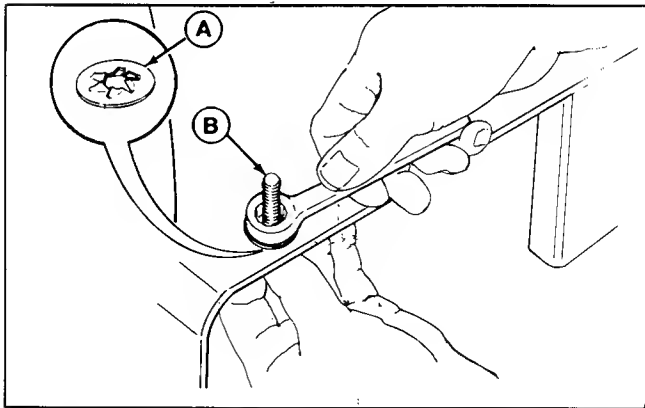

Figure 1.
2. Remove the discharge deflector by removing two carriage bolts, lockwashers and nuts. Reinstall the carriage bolts (B, figure 1) using the supplied push nuts (A).